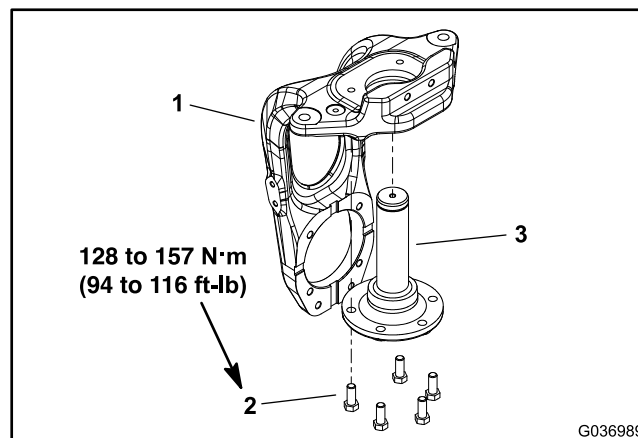

Figure 271
14. Clean the steering fork spindle. Inspect the shaft for wear and replace the steering fork spindle if the shaft is worn or damaged (Figure 271).